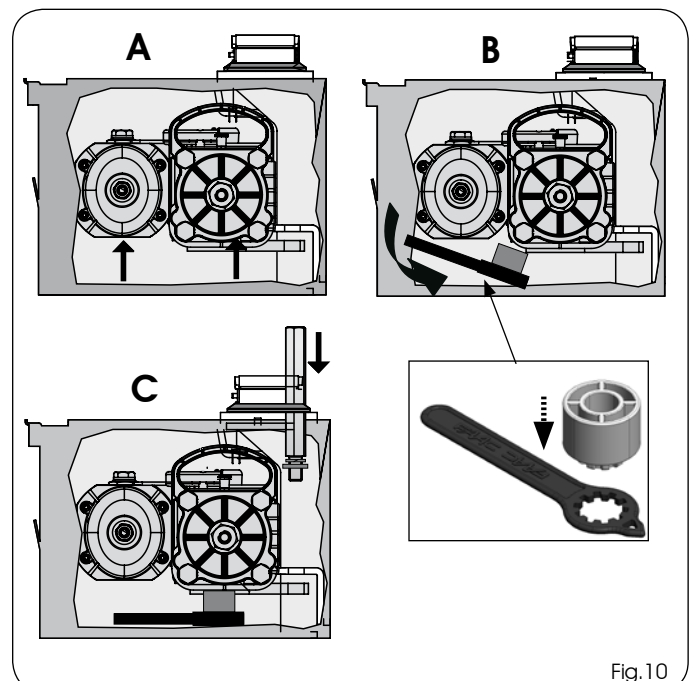
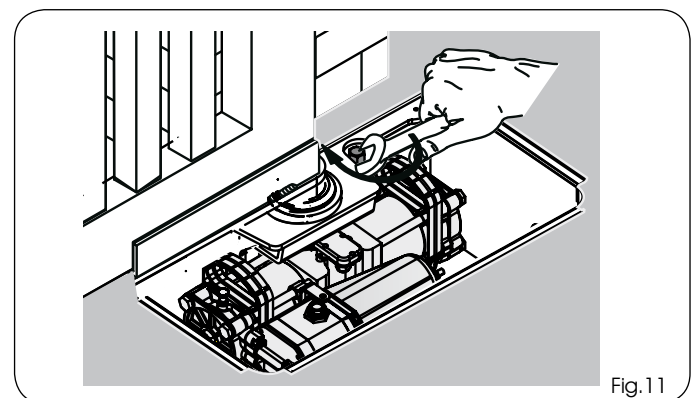

Fig.10
Fig.11
10) Raise the operator with its handles (Fig.10 ref. A), inserting the pinion in the grooved bush of the bearing case. To facilitate the operation, slightly rotate the operator until coupling takes place.
11) Place the supplied key under the operator, as shown in figure 10 ref. B, C
12) Insert and screw the fastening screws with groover and washer as shown in Fig. 10 ref. C, in order to secure the operator to the bearing case as shown in Fig. 11.